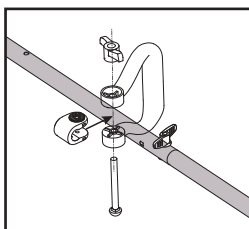

Fig. 2
2. Assemble the adjustable handle and tighten the handle knob (Fig. 2 and 3).